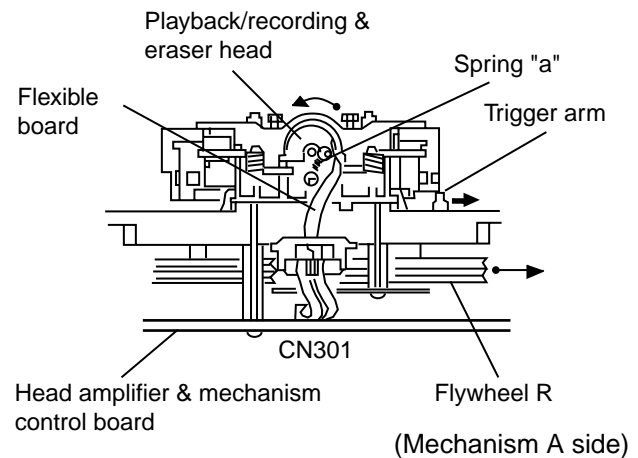
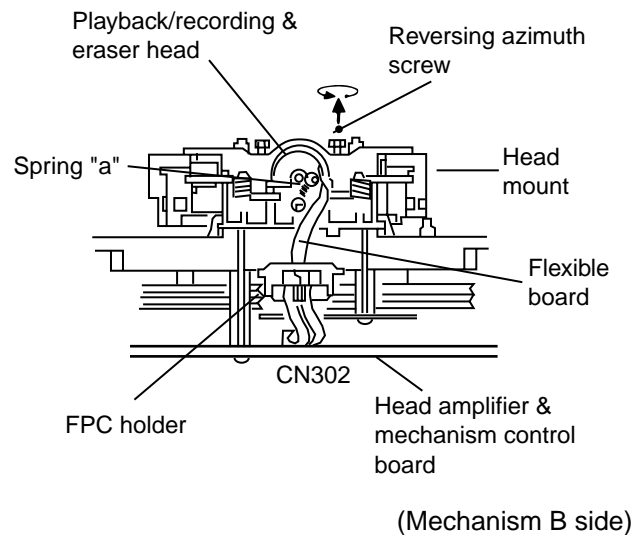

Fig. 2
Fig. 3
2. When the flywheel R is rotated in counterclockwise direction, the playback head will be turned in counterclockwise direction from the position in Fig. 2 to that in Fig. 3.
### ■ Reassembling the playback/recording and eraser heads (See Fig. 2 & 3)
1. Reassemble the playback head from the front of the head mount to the position as shown in Fig. 3.
4. Attach the flexible board to the chassis base, and fix it with the FPC holder as shown in Fig. 3.